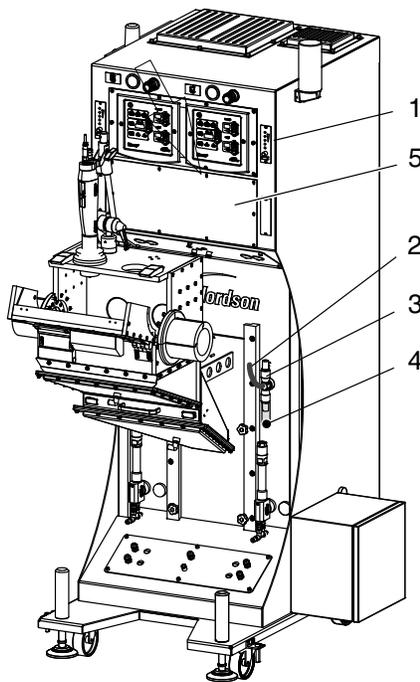

Fig. 7-2
2. Remove the cover plate (Fig. 7-2).
3. Release the plug connections on the old evaluator (1, Fig. 7-2).
2. Remove the old sensor cable (2, Fig. 7-2):
- a. Remove the cover plate (Fig. 7-2).
3. Remove the old sensor (3, Fig. 7-2) from the powder hose (4, Fig. 7-2).